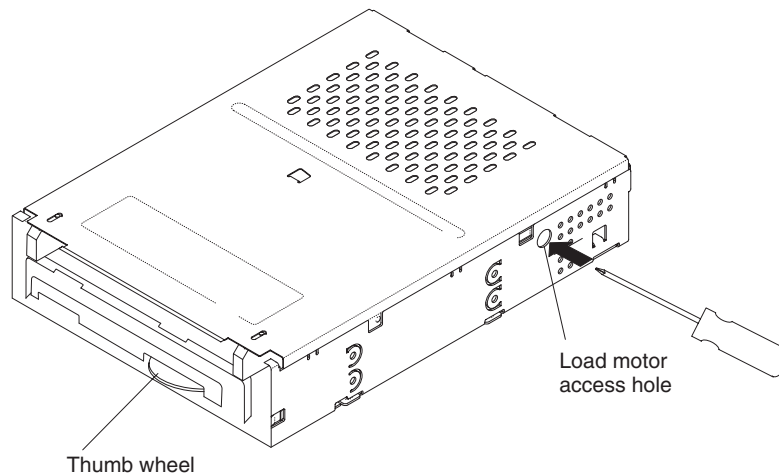

Figure 28. Turning the load motor to release the cartridge
4. Gently rotate the thumb wheel (see Figure 28 on page 54) counterclockwise to remove slack from the tape by winding the media onto the take-up reel.
5. Insert a Phillips head screwdriver in the load motor access hole (see Figure 28 on page 54). Rotate the load motor clockwise to unwind the tape path. Unwind the mechanism until tape slack appears.